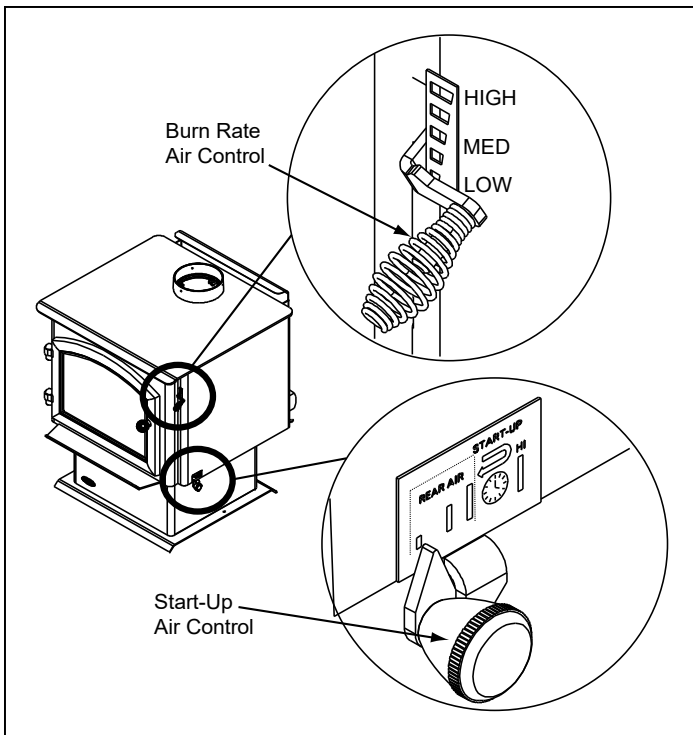

Figure 10.1
2. **Second Stage:** The next stage of burning, the secondary stage, is the period when the wood gives off flammable gases which burn above the fuel with bright flames. During this stage of burning it is very important that the flames be maintained and not allowed to go out. This will ensure the cleanest possible fire. If the flames tend to go out, it is set too low for your burning conditions. The air control located at the upper right hand corner is used to adjust for burn rates. This is called the Burn Rate Air Control (**Figure 10.1**).
- Then activate the ACC timer system by pushing the knob all the way back toward the appliance to "HI" then pull forwards towards the front of the appliance until the knob stops (**Figure 10.1**).